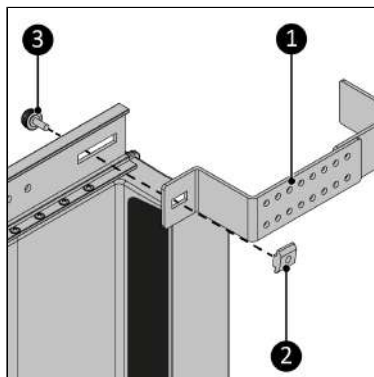

Figure 80.
7. Screw the bracket (Figure 80, pos. 1) to the main rail in the front position using the knob screw (Figure 80, pos. 3). Make sure you connect the knob screw to the slide nut (Figure 80, pos. 2).